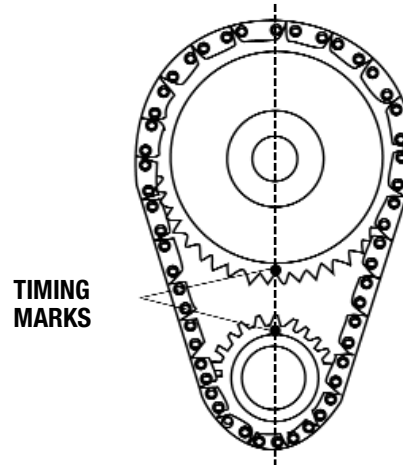

Figure 2- Timing Chain Sprocket Alignment
13. Rotate engine until timing marks are aligned as shown in Figure 2.
motor repair manual. Install camshaft with timing marks lined up as recommended by factory specifications. See Figure 2.
After the cam is installed and timed correctly (see Figure 2), it will be necessary to check each pushrod for correct lifter preload.